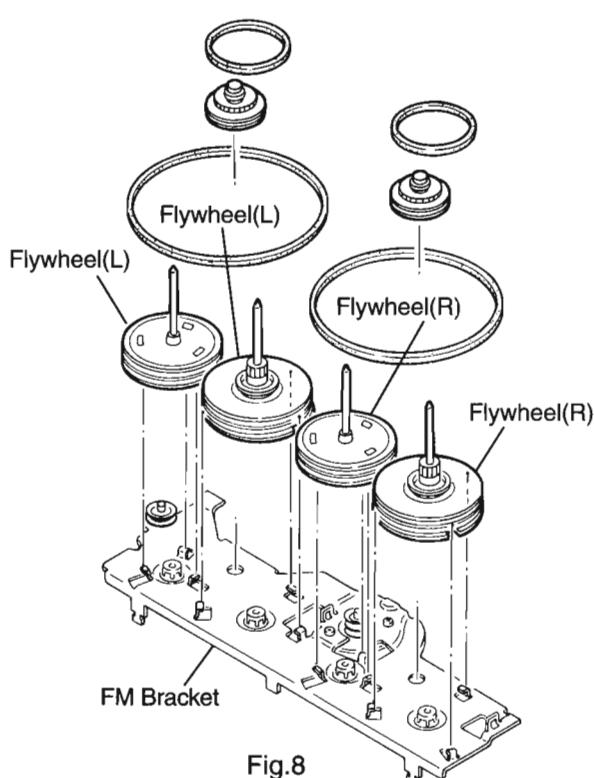

Fig.8
■How to install the belts(See Fig.8~12)